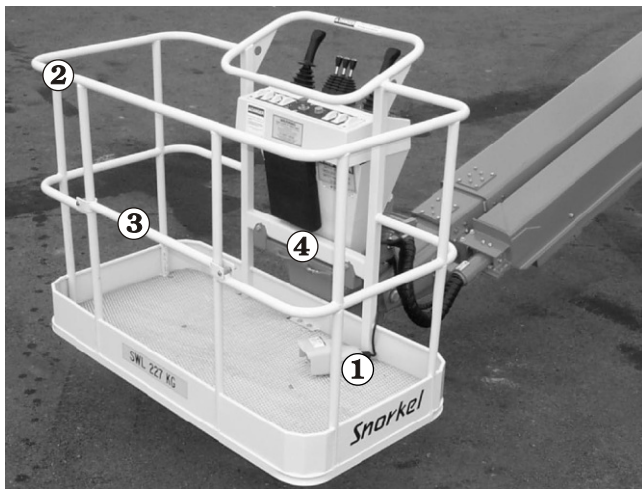

Figure 3.5—Platform
The platform foot switch (refer to Figure 3.5^①) prevents boom and platform movement if a control on the upper control panel is accidentally moved.
The guardrail system includes a top rail, mid rail, and toeboards around the sides of the platform (refer to Figure 3.5^②).
A gravity gate or an optional swinging gate allows for access to the platform (refer to Figure 3.5^③). The swinging gate closes automatically after entering or exiting the platform. The gate is part of the guardrail system and must be securely fastened after entering the platform.
Two lanyard anchors for fall restraint anchorage are provided below the upper controls at the front of the platform (refer to Figure 3.5^④).